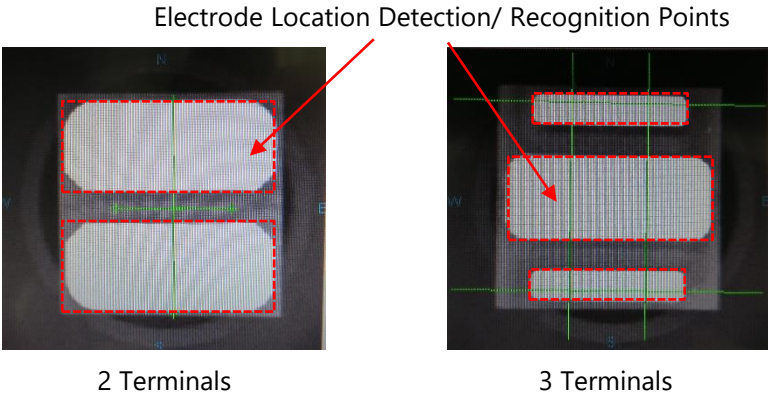

Figure 7. Recommended reference points to detect, recognize, or locate the electrodes
2. If the imaging device has trouble detecting/recognizing the electrodes due to the uniqueness of the electrode pattern, adjust it to detect/recognize the outer portions of the electrodes (i.e. the areas circled in red in Figure 7 to the left).